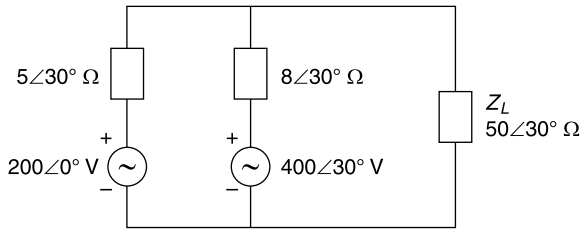

Fig. 6.26 Circuit of Ex. 6.25
6.25 Find the current through Z_L in Fig. 6.26 using the superposition theorem.